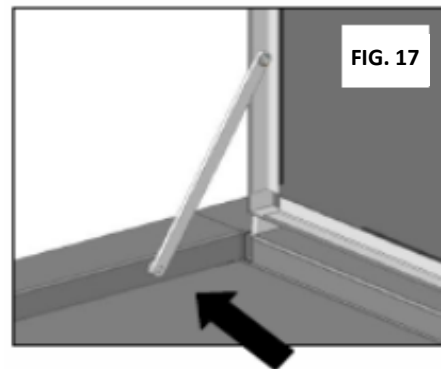

FIG. 17
- **Make sure that the retaining rod is properly fixed and there is no possibility that the vitroc ceramic glass worktop can come loose (Figure 17).**